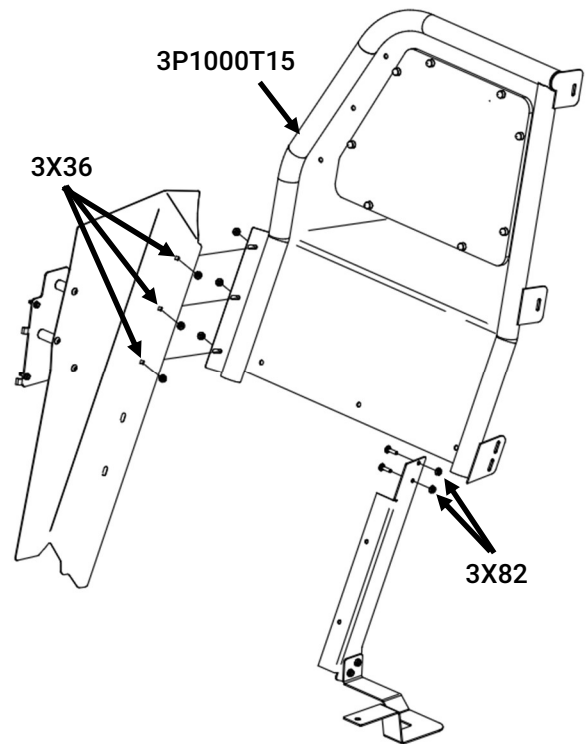

Figure 5
- A. Prepare (3) carriage bolts [3X36], (2) [3X82] and (5) whiz nuts [3X16Z].
- B. Position the partition [3P1000T15] inside the vehicle and align the three uppermost mounting plate holes with the respective slots on the partition. The flanges on the partition go on the inside face of the mounting plates. (Fig 5)
- C. Temporarily install the two carriage bolts [3X82] with whiz nuts [3X16Z] through center support bracket [3PAK541904]. These will be removed and re-installed when installing divider. (Fig 5)
- D. Loosely secure in place with the fasteners prepared in step (A). Install the fasteners such that the smooth head of the carriage bolt is facing towards the outside of the vehicle. The fasteners will be tightened in a later section.